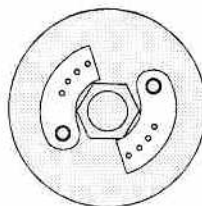
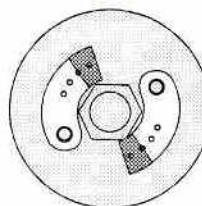
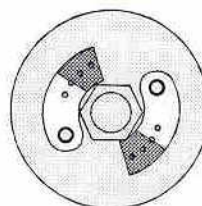

Fig. 301A
Fig. 301B
Fig. 301C
ENGINE CLUTCH (Fig. 301A, 301B, 301C) Our Team drivers have worked out a simple modification to improve the performance of the clutch. It involves trimming down the clutch shoes to the size needed for your application, as in the shaded area in fig. 301B.
(1) Using a  knife, trim away the shaded portion of the clutch shoes as in fig. 301B. (2) After this, you will need to test the clutch performance. After you have warmed up your truck, bring it to an idle in front of you. **NOTE:** You will probably need to raise your idle slightly with this modification. (3) Now apply full throttle from a standing start. Your truck should accelerate quickly without hesitation or excessive rpms. If your engine tends to "bog" (be slow in initial acceleration), then you may need to trim your clutch shoes half way between figs. 301B and 301C, then test your truck again. (4) If your engine still bogs from a standing start, your maximum trim would be as shown in fig. 301C. This will allow the engine to rev-up higher into its power range before the clutch fully engages. **WARNING! DO NOT TRIM AWAY MORE CLUTCH SHOE THAN NECESSARY, OR ENGINE DAMAGE MAY OCCUR!**
If your engine tends to rev-up excessively without much acceleration, you may need to keep your clutch shoes closer to standard length. Normally, the more power you have, the more clutch shoe you will need. In most cases, trimming the clutch shoes as in fig. 301B will work best.